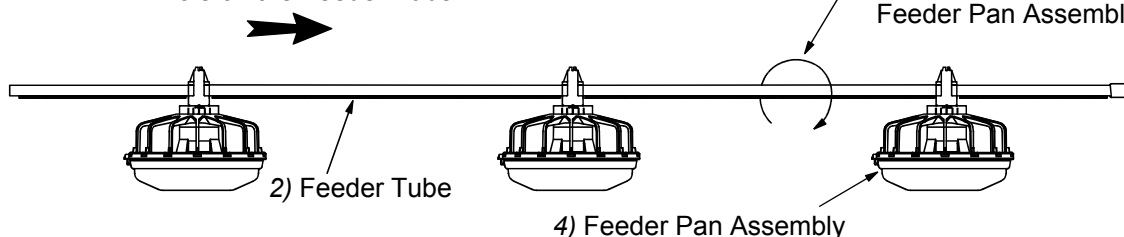

Figure 21. Assemble Feeders on tubes
2. Rotate the auger tubes so that the seam is down, this holds the Pan Assemblies in place on the tubes. See **Figure 21**.